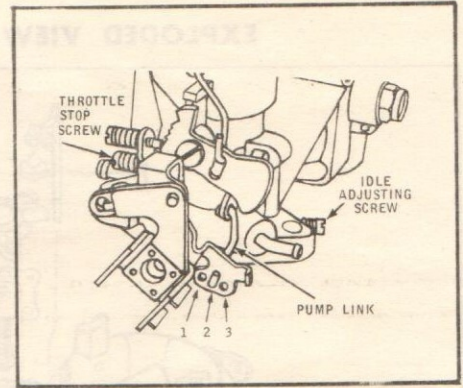

FIGURE 3
C. Pump Link Position: (Fig. 3)
H. Idle Mixture and Speed: (Fig. 3)